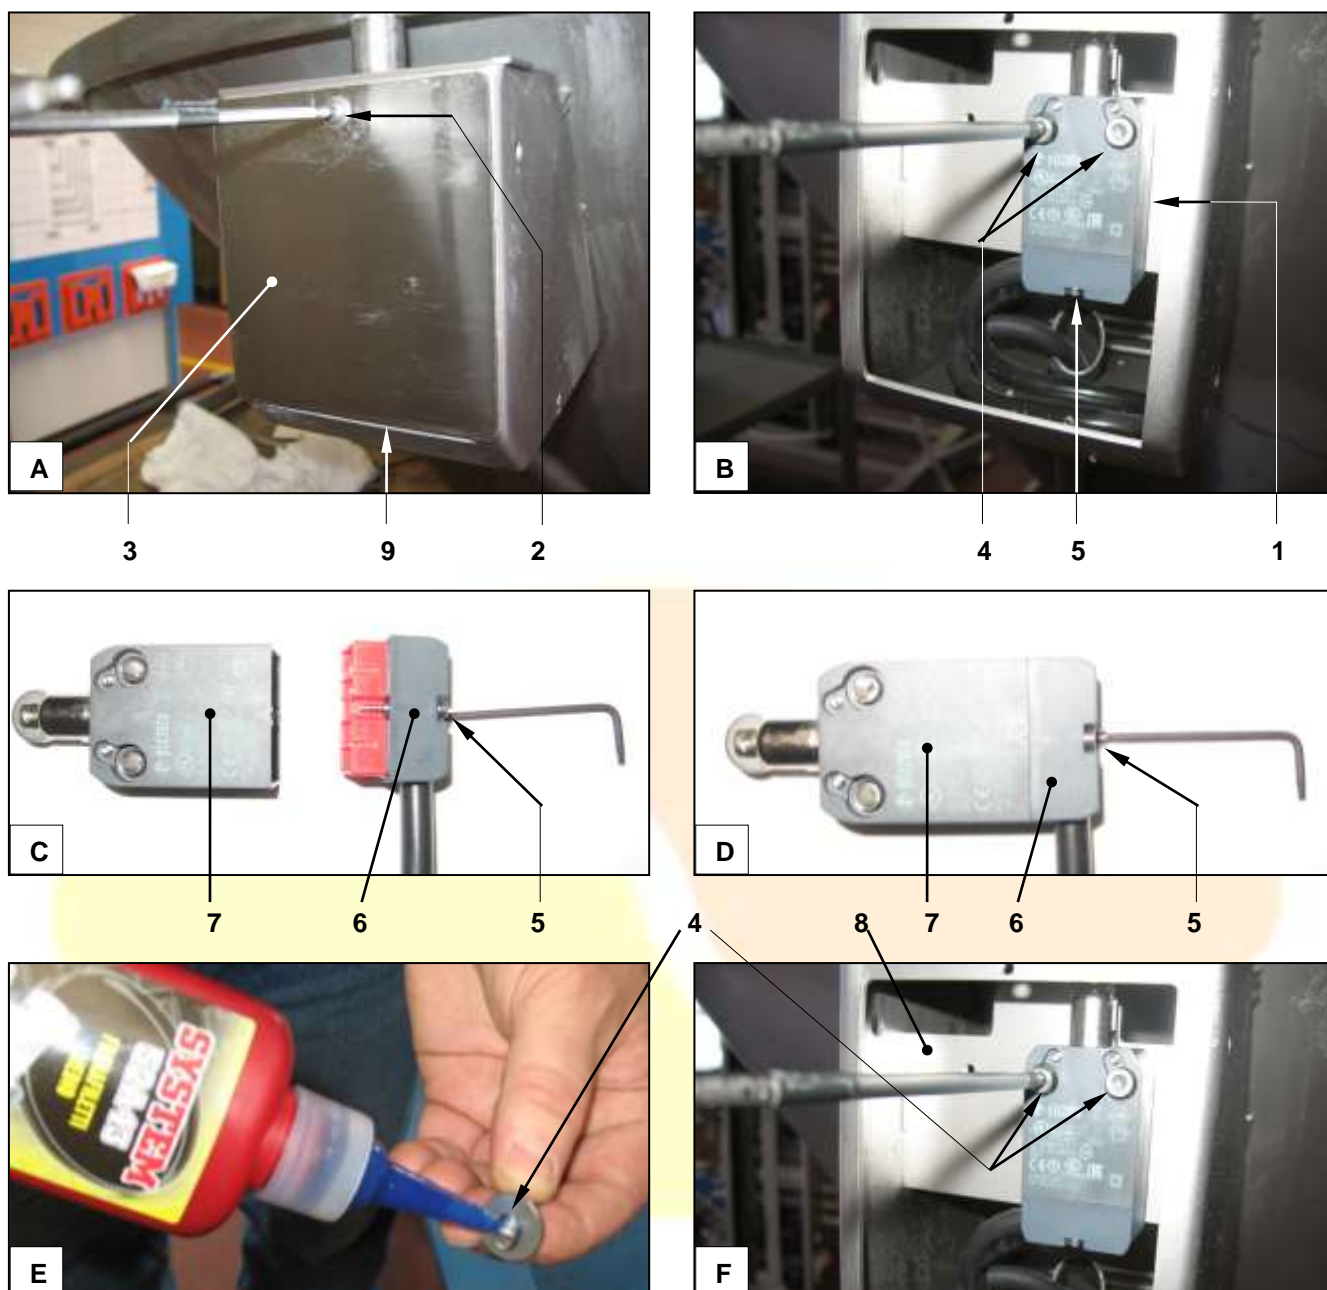

Figure 36 - Replacing the micro-switches associated with the sensor ring
With reference to Figure 36, to replace the micro-switches ref. 1 associated with the sensor ring:
1. Use the 2.5 Allen wrench to loosen the screw ref. 2 and remove the cover ref. 3 of the compartment where the micro-switch is housed ref. 1 (Figure A)
2. Use the 3.0 Allen wrench to loosen the screws ref. 4 that fix the micro-switch ref.1 in place (Figure B)
3. Use the T7 Torx wrench to loosen the screw ref. 5 and separate the connector ref. 6 from the body ref. 7 (Figure C)
4. Insert the connector ref. 6 into the body ref. 7 of the new micro-switch and fix it in place with the screw ref. 5 (Figure D)
5. Distribute the threadlocker on the shank of the screws ref. 4 (Figure E)
6. Position the limit stop so as to align the holes with the corresponding threaded holes present on the support sheet metal ref. 8, then lock it into position with the screws ref. 4 (Figure F); tighten well, but without using excessive force not to damage the micro-switch.
7. Assemble the cover ref. 3 (the lower side must fit inside the lip ref. 9) and block it in place with the screw ref. 2 (Fig. A)